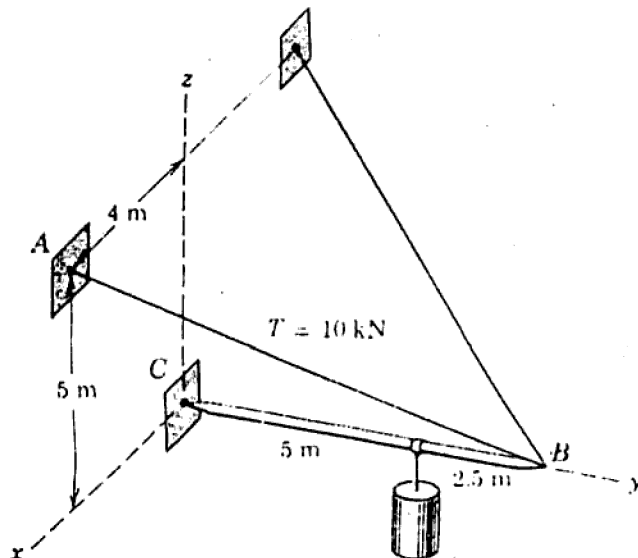

Fig. 2
7. a) The tension in the supporting cable AB (Fig. 2) is 10 kN. Write the force which the cable exerts on the boom BC as a vector T . Determine the angle θ_x , θ_y and θ_z which the line of action of T forms with the positive x -, y - and z -axes. 7